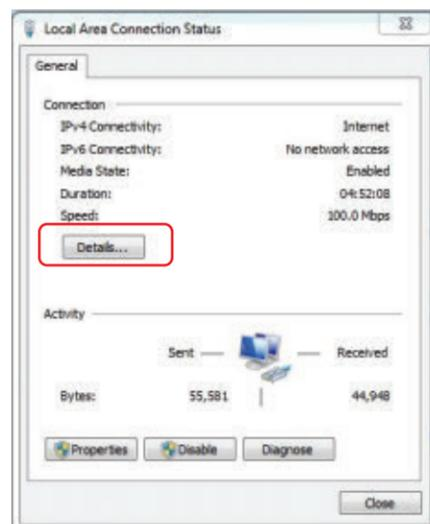

Fig. 6.2
- (1) Click “Start” -> “Routine”-> “Attachment”-> “Communication”-> “Network”; double click “local connection” and enter “Local Area Connection Status”.(See Fig. 6.2)